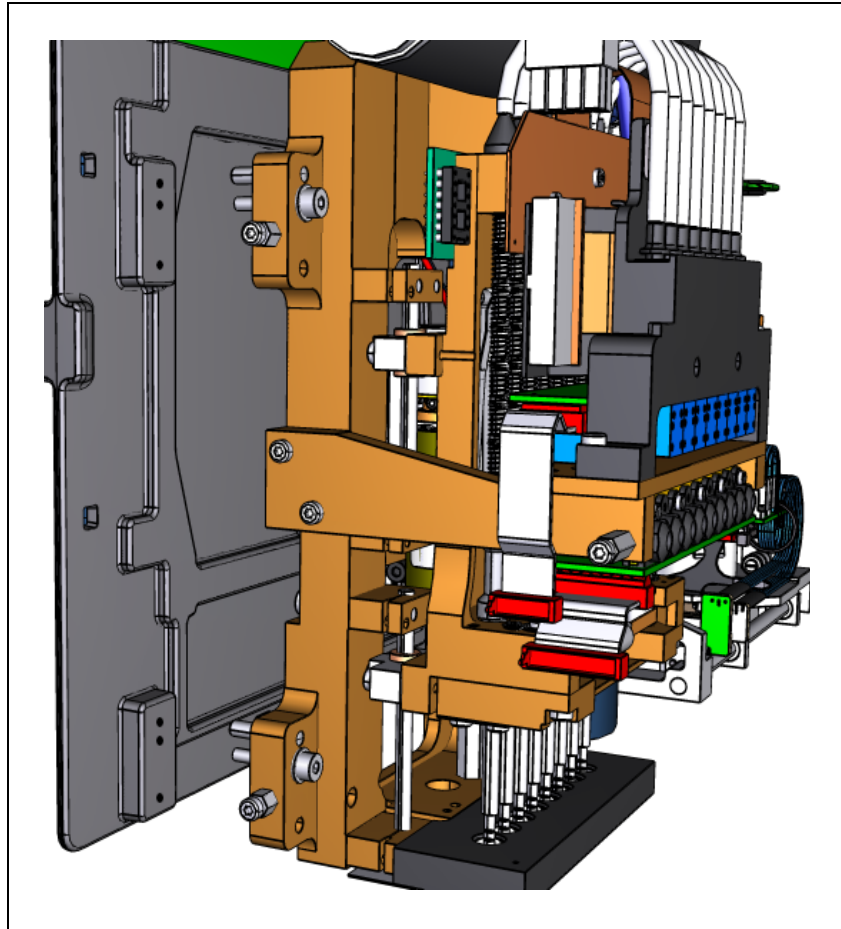

Figure 6-21. Attach HYDRA preliminary.
6. Attach the HYDRA preliminary according to Figure 6-21. When the screws and guide pins are correctly aligned, attach the HYDRA unit to the X-wagon plate with one screw per attachment ear (two screws on the left side and one screw on the right side).